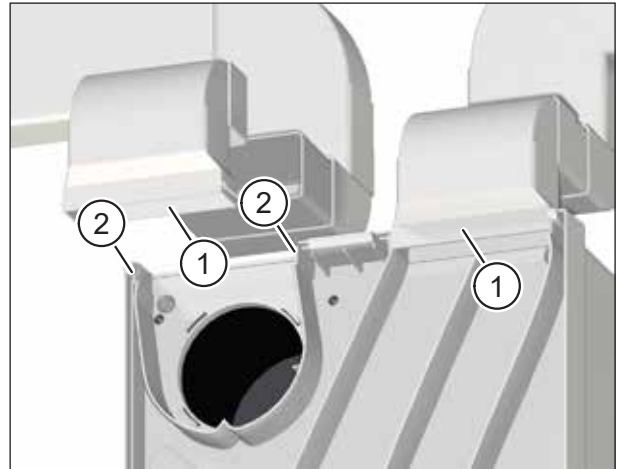

Fig. 11: Clean duct adapters (for surface-mount with ductwork connection)
- ▶ Clean the duct adapters (item 1 in Fig. 11) with a damp cloth and mild soapy water.
You can take out the duct adapters if necessary. To do this, carefully push the two retainers (item 2 in Fig. 11) outwards and pull the duct adapters forward.